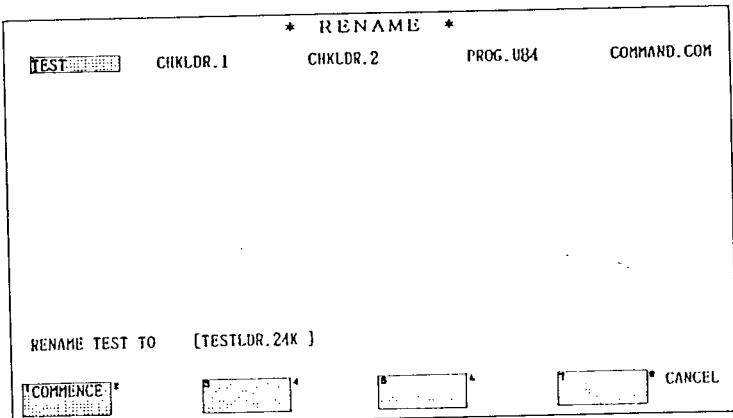

Fig. 7.132
- (1) Depressing CANCEL in Fig. 7.132 calls up the display shown in Fig. 7.130 again.
- (2) Instead of a system disk, a disk formatted by P 150 (containing "COMMAND. COM" file) may be used.